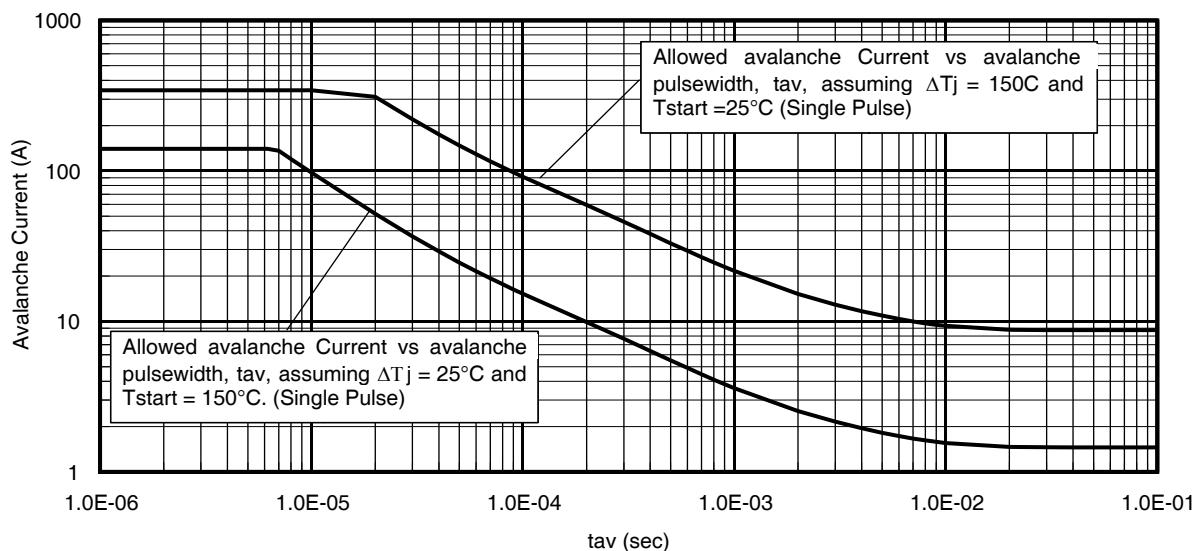

Fig 16. Typical Avalanche Current vs. Pulse Width
Notes on Repetitive Avalanche Curves , Figures 16, 17:
7.  $\Delta T$  = Allowable rise in junction temperature, not to exceed  $T_{jmax}$  (assumed as 25°C in Figure 16, 17).